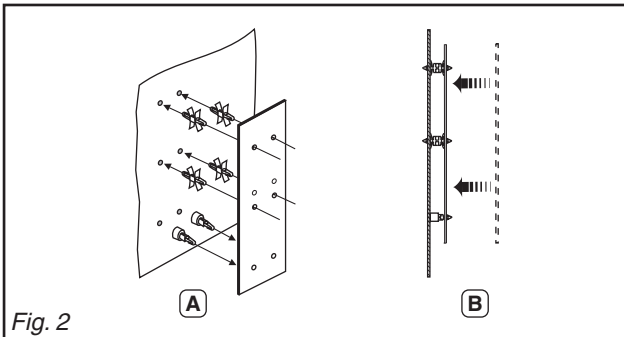

Fig. 2
3.2 Fit circuit boards (fig. 2)
- 1 - Engage the mounting studs (provided with the circuit boards) in the holes provided (A).